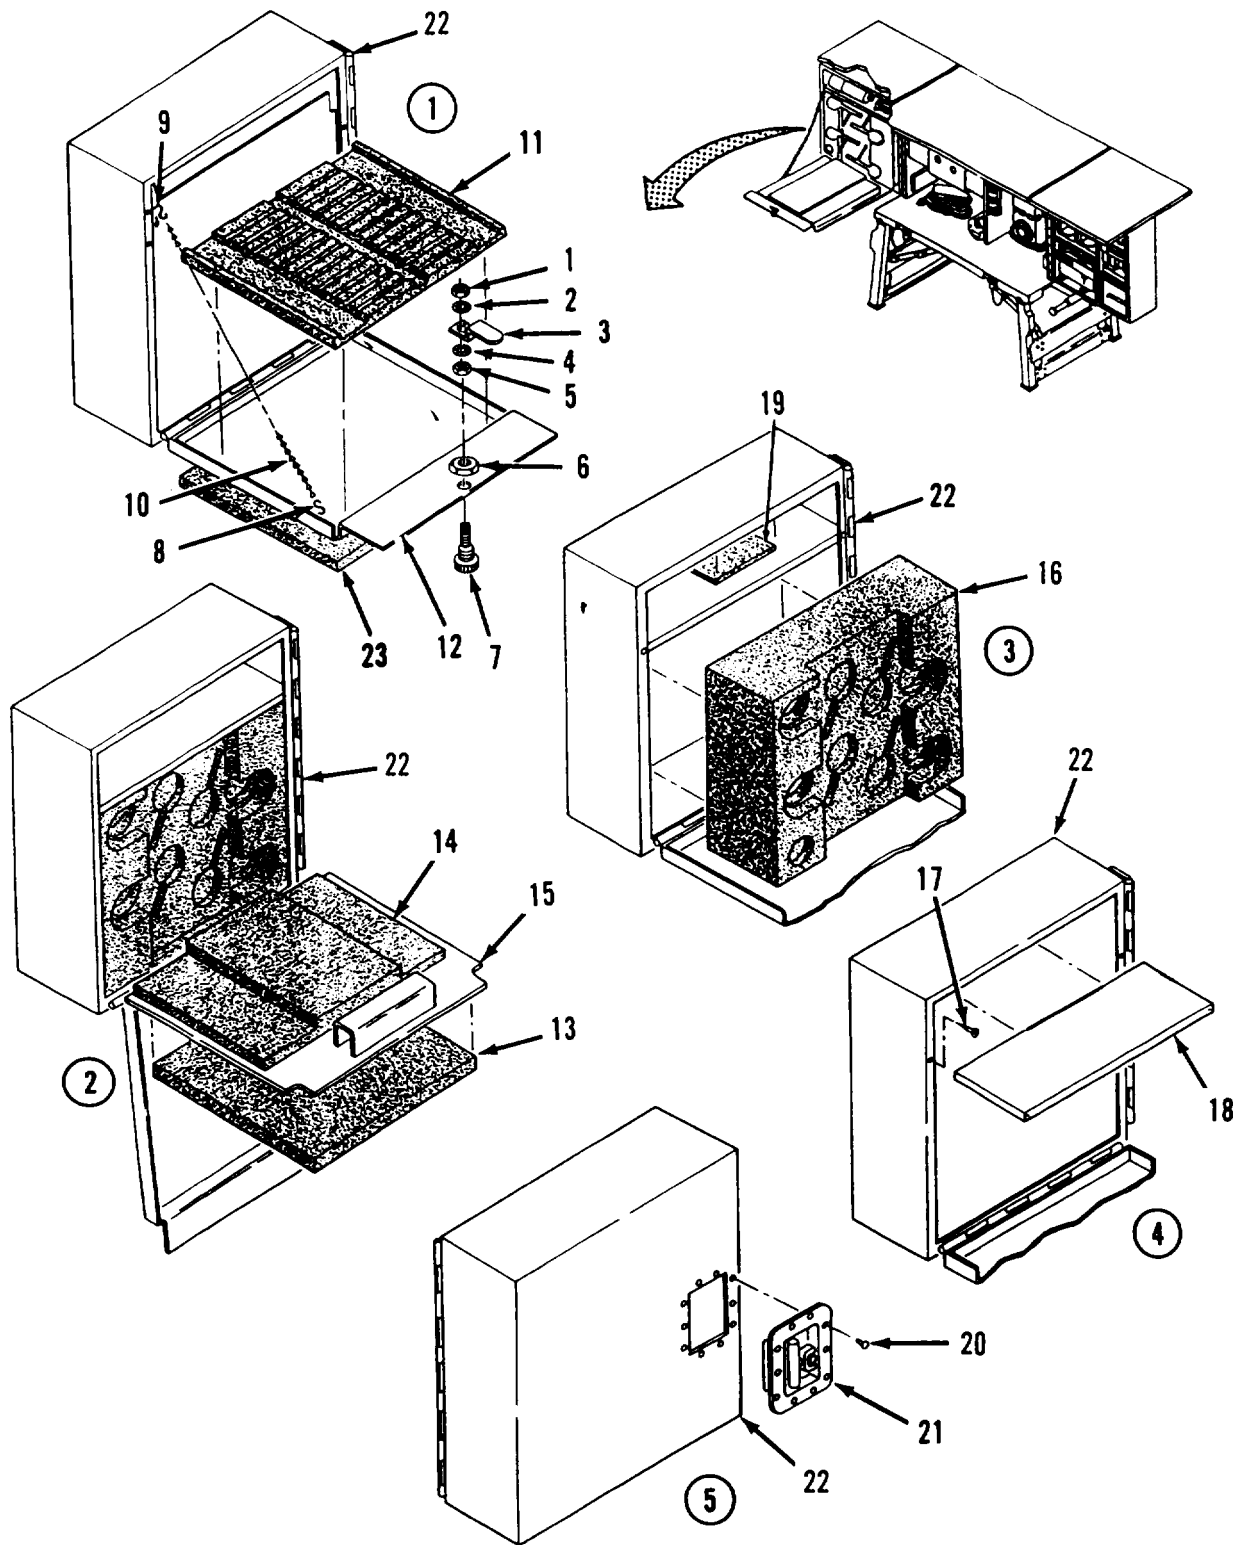

Figure 4-15. Left Cabinet Door Assembly.
LEFT CABINET DOOR. Refer to figure 4-15.
- (63) Apply adhesive to back of foam block (11). Position foam block in cabinet door (12) and press in place.
- (64) Apply adhesive to foam sheet (10). Position foam sheet in cabinet door (12) and press in place.
- (65) Apply adhesive to foam block (9). Position foam block in cabinet door (12) and press in place.
- (66) Position door (8) on cabinet door (12). Using No. 42 (3/32) drill bit, drill pilot holes into cabinet door (12) using hinge on door (8) as a template. Secure door (8) in place with three screws (7).
- (67) Position retainer (6) on cabinet door (12). Using No. 42 (3/32) drill bit, drill pilot holes into cabinet door using hinge on retainer as a template. Secure retainer in place with two screws (5).
- (68) Position retainer (4) on cabinet door (12). Using No. 42 (3/32) drill bit, drill pilot holes into cabinet door using hinge on retainer as a template. Secure retainer in place with two screws (3).
- (69) Position retainer (2) on cabinet door (12). Using No. 42 (3/32) drill bit, drill pilot holes into cabinet door using hinge on retainer as a template. Secure retainer in place with two screws (1).
f. Adjustment. Refer to figure 4-15.
- (a) If panel (12) will not latch on cabinet door (21) (panel too tight), adjust two nuts (1 and 5) to move catch (3) upon stem of latch (7), then tighten two nuts.